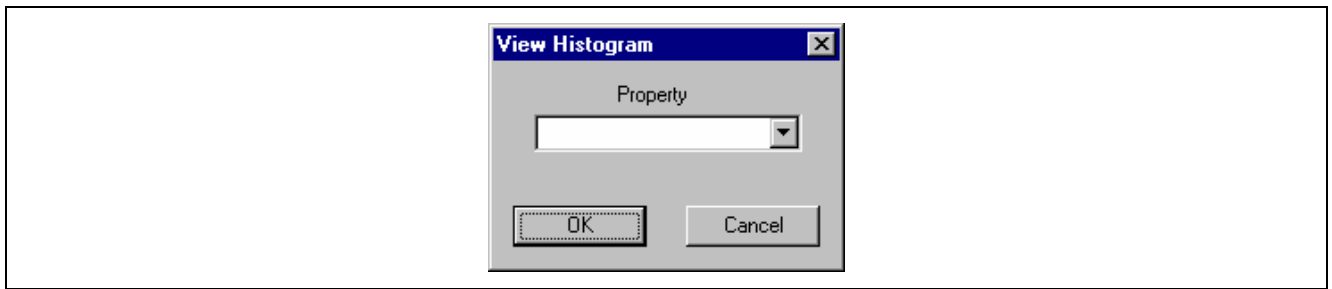

Fig. 6-36 View Inventory Histogram Data
11.2 Select OK and the View Histogram window of Fig. 6-36 appears.